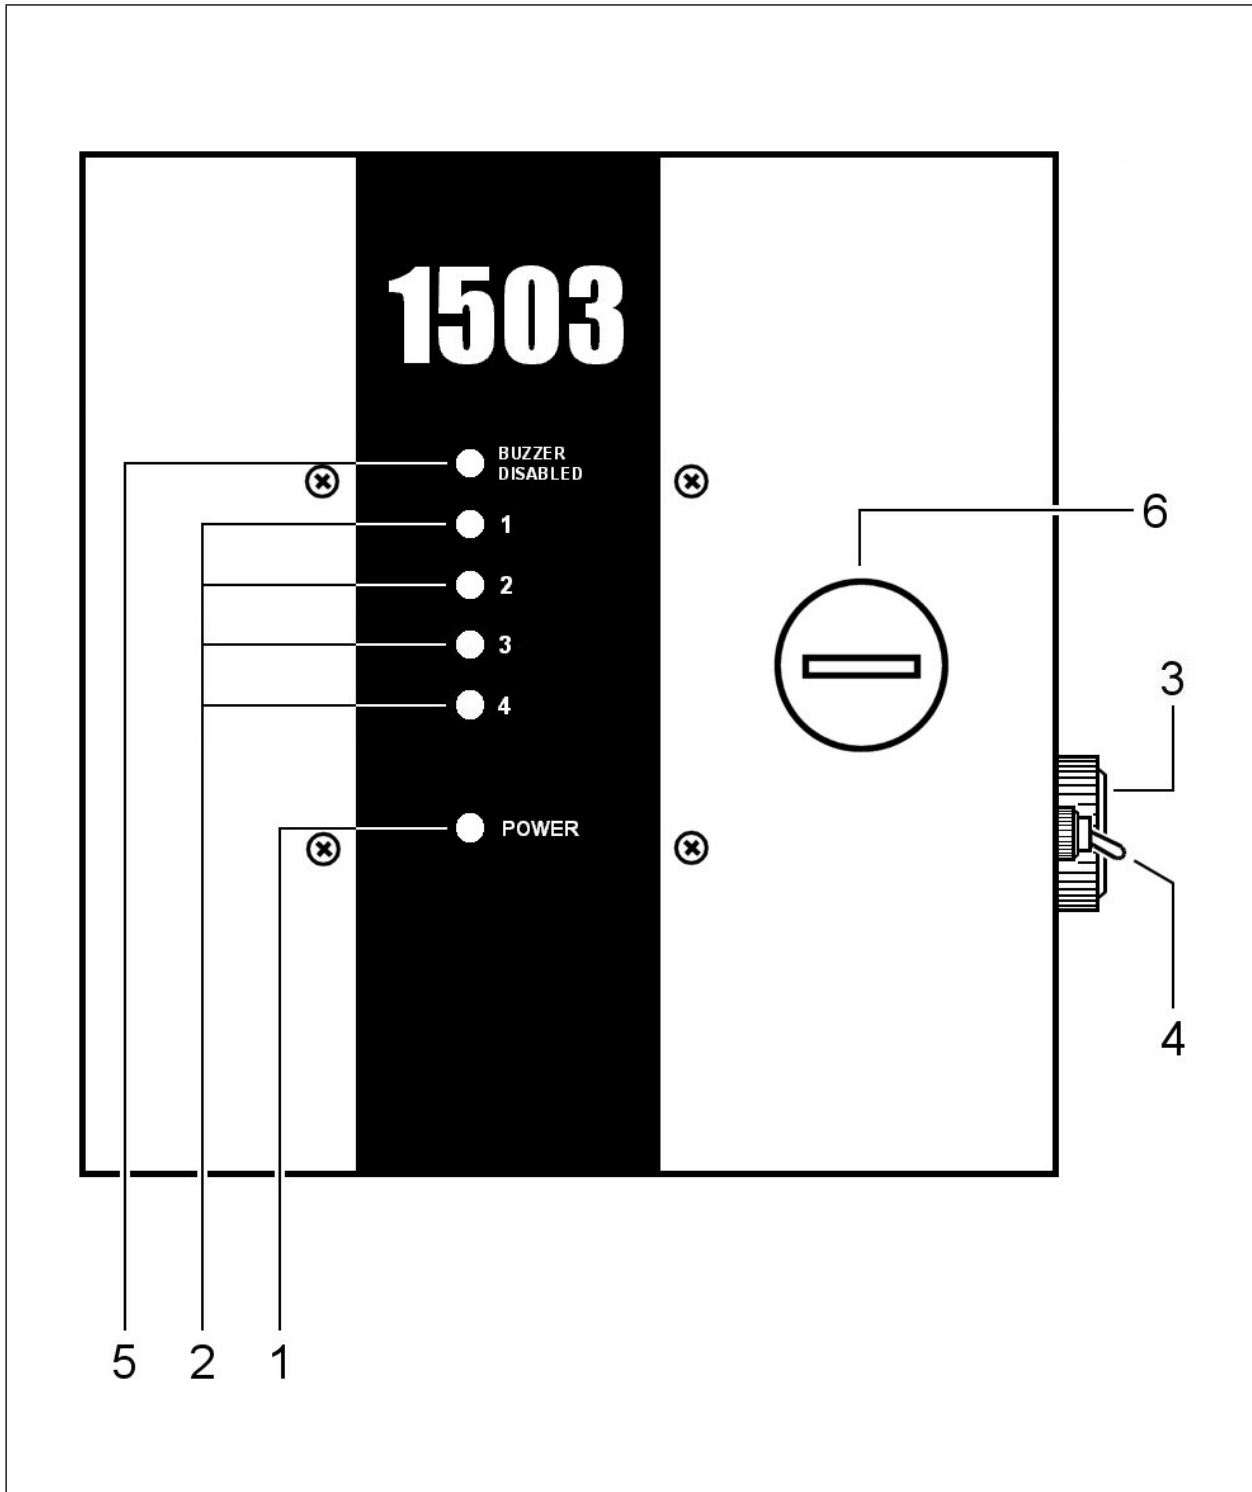

FIGURE 1: External features of the ATI-1503-4L annunciator unit.
The ATI-1503-4L 4-Channel Annunciator Unit is designed to interface with the 4-level ATI-5020 Liquid Level Probe with N/O (Normally Open) contacts. Provides four (4) points or levels of alarm indications for the sensor as shown in FIGUREs 1 and 2:
Refer to FIGURE 1 for the following.